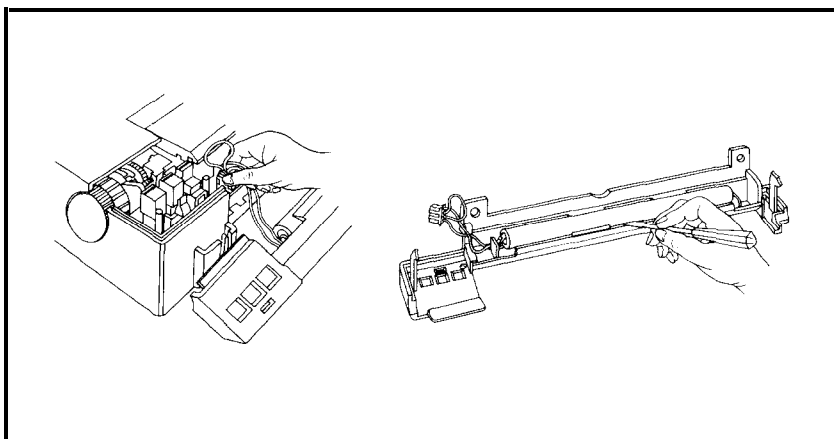

Figure 2-6. Removing the battery
4. With the battery holder cover open, locate the battery connector near the POWER switch. It is marked CN7. Unplug the battery connector noting the direction of insertion. Remove the battery with a screwdriver as shown in Figure 2-6.